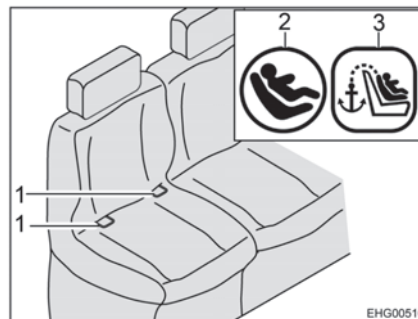
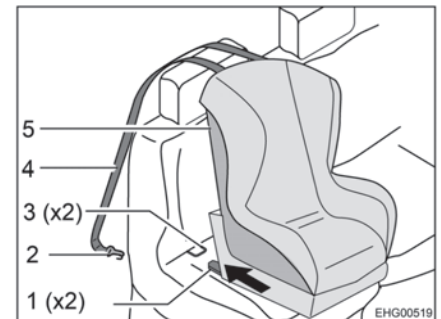

Fig. 13 Seat with Isofix
Fig. 14 Fastening with top tether
- Have the connectors (Fig. 14,1) snap into the retaining clips (Fig. 13,1 and Fig. 14,3). While doing this, a distinctive click must be heard.
- With a strong jerk, check if the child seat (Fig. 14,5) is firmly connected.
- Route top tether strap (Fig. 14,4) over the headrest of the vehicle seat.
- Hook the fixing hook (Fig. 14,2) onto the attachment point on the back of the vehicle seat.